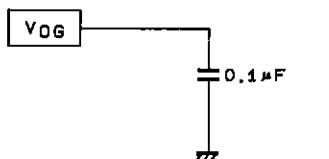

Fig. 2
2. Connect V_{OG} to ground through a 0.1 μF capacitor. (See Figure 2.)